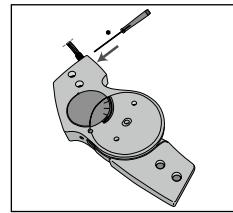

Fig. 8
7. Loosen the Cone Point Safety Screw on the side of the joint, two turns will do (see Fig. 8). Do not remove the screw from the joint.
18. Tighten the Cone Point Safety screw back in the joint (**see Fig. 8**).